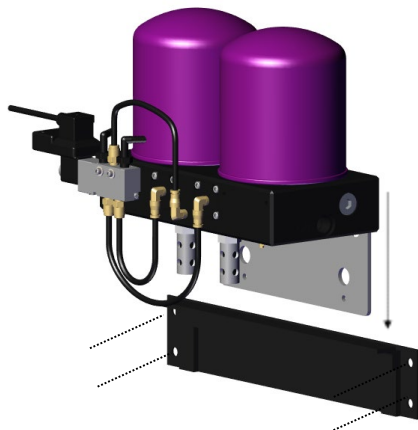

Figure 1
2. Using the appropriate hardware (not included), mount dryer bracket to wall. Be sure fasteners and mounting location can hold the weight of the dryer (see dryer specifications on page 1). *Figure 1*
3. Once the wall bracket has been properly secured to the wall, place the dryer mounting rail into the slot(s) of the wall bracket. *Figure 1*